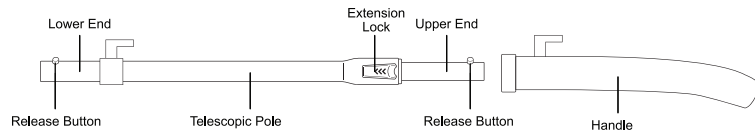

Figure 1
1. Connect Handle to upper, narrower end of Telescopic Pole. To do this, simply slide Handle onto Telescopic Pole until Release Button, located on Telescopic Pole, snaps through small hole on Handle (Figure 1).